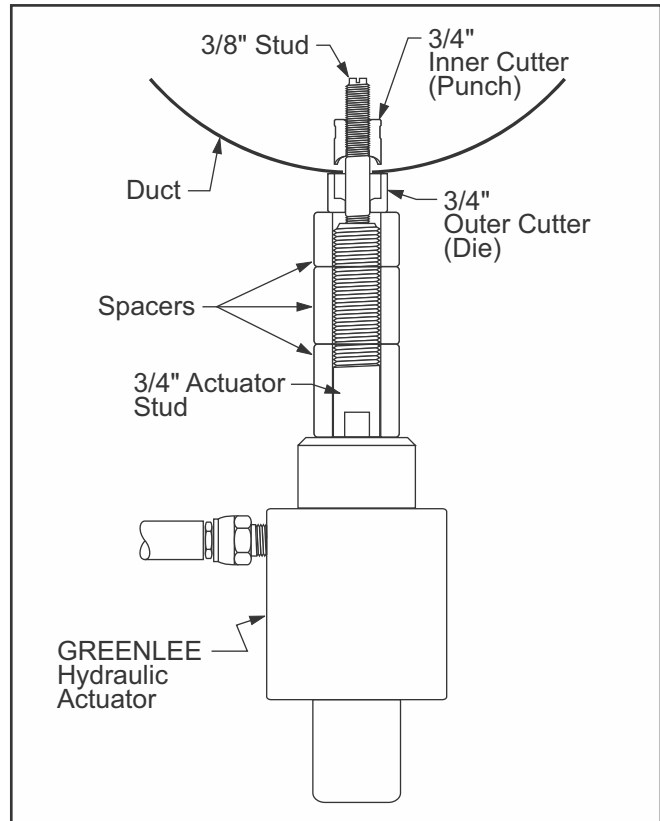

Fig. 31: 3/4" Hydraulic Punch Configuration
4. Swage Hole: Slide the 60mm outer swage tool onto the 3/4" actuator stud. Insert the actuator stud and outer swage tool into the 60mm hole. From inside the duct slide the matching inner swage tool onto the actuator stud. Invert and thread any one of the three punches onto the actuator stud (cutting surfaces facing away from the inner swage tool) until the inner swage tool, the duct and the outer swage tool are snug. Operate the hydraulic actuator to compress the swage tools together to form the swage. Loosen and remove the swage tool. (Fig. 31)